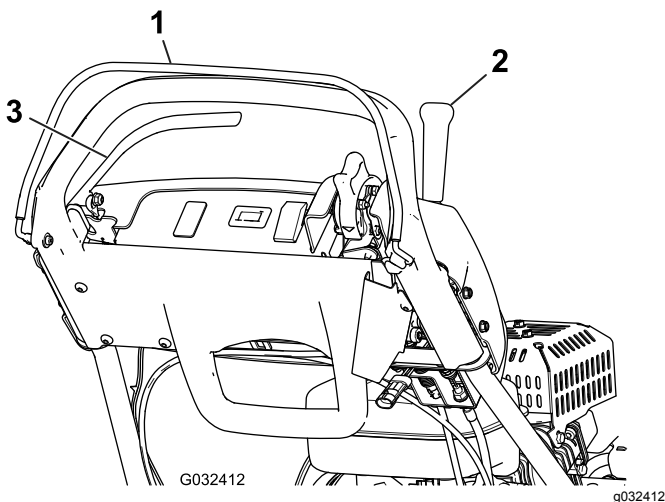

Figure 29
3. With the OPC released, attempt to engage the traction lever (Figure 29). The traction lever **should not** engage. If the traction lever engages, the interlock system needs service. Correct the problem before operating the machine; refer to Servicing the Traction-Interlock Switch \(page 32\).
4. With the OPC pressed and the traction lever engaged, release the OPC (Figure 29). The
5. With the OPC pressed and the shift lever moved to the left, engage the traction and reel drive and release the OPC (Figure 29). The traction lever **should** disengage. If the traction lever does not disengage, the interlock system needs service. Correct the problem before operating the machine; refer to Servicing the Traction-Interlock Switch \(page 32\) or Servicing the Traction-Interlock Switch \(page 32\).
6. With the OPC pressed and the shift lever moved to the left to engage the traction and reel drive, move the shift lever to the right to disengage the reel drive (Figure 29). The reel drive **should** disengage. If the reel drive does not disengage, the interlock system needs service. Correct the problem before operating the machine; refer to Servicing the Traction-Interlock Switch \(page 32\).
2. With the OPC pressed, the traction lever engaged, and the engine controls in the starting position (Figure 29), attempt to start the engine. The engine **should not** start. If the engine starts, the interlock switch needs service. Correct the problem before operating the machine; refer to Servicing the Traction-Interlock Switch \(page 32\).
2. With the traction lever disengaged, the service brake engaged, and the engine controls in the starting position (Figure 29), attempt to start the engine. The engine **should** start. If the engine does not start, the interlock switch needs service. Correct the problem before operating the machine; refer to Servicing the Brake-Interlock Switch \(page 32\).
3. With the engine running, engage the service brake (not the parking-brake latch), press the OPC, and engage the traction lever (Figure 29). The engine should labor to overcome the brake but should not shut off. If the engine shuts off immediately, the interlock switch needs service. Correct the problem before operating the machine; refer to Servicing the Brake-Interlock Switch \(page 32\).
4. With the engine running, engage the parking-brake latch, press the OPC, and engage the traction lever (Figure 29). The engine **should** shut off. If the engine does not shut off, the interlock switch needs service. Correct the problem before operating the machine; refer to Servicing the Brake-Interlock Switch \(page 32\).